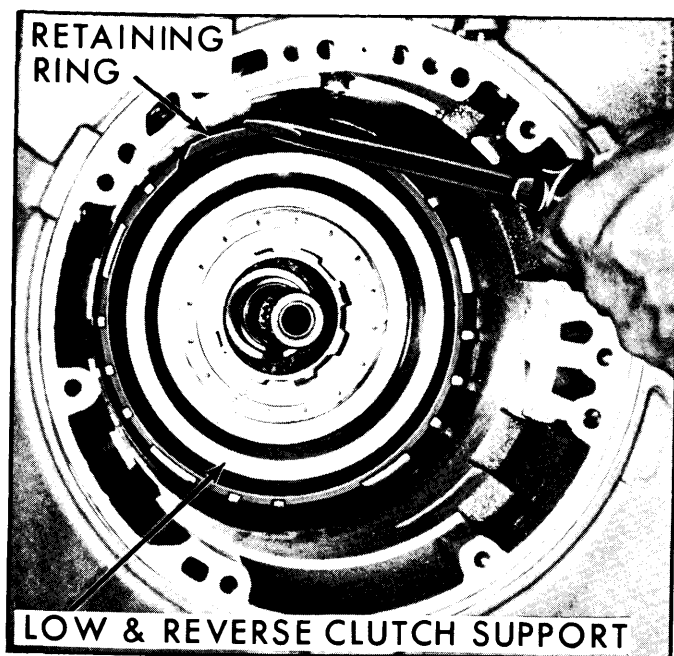

Fig. 7-45—Removing Low and Reverse Clutch Support Retaining Ring
13. Remove low and reverse roller clutch support to case retaining ring. (Fig. 7-45)